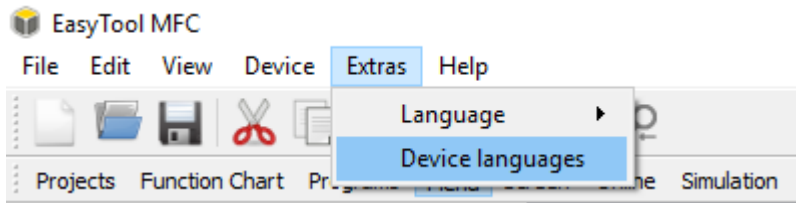

Figure 10 Menu Item Extras ► Device Languages
- The menu item *Device languages* (Figure 10) opens the dialog *Device languages*.